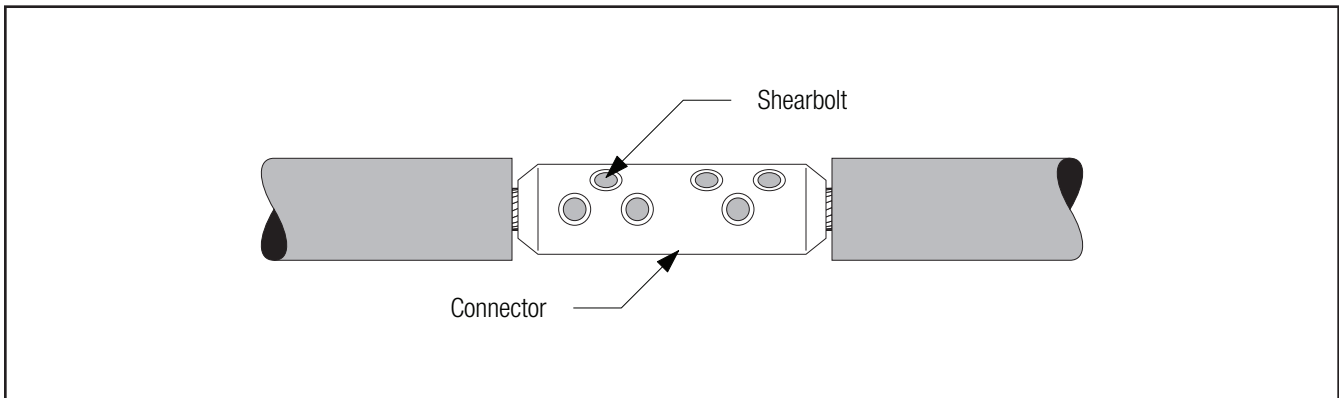

Figure 9
- 3.2** Install 3M™ Shearbolt Connector QCI 500-1000 according to the instructions included with the connector (Figure 9).